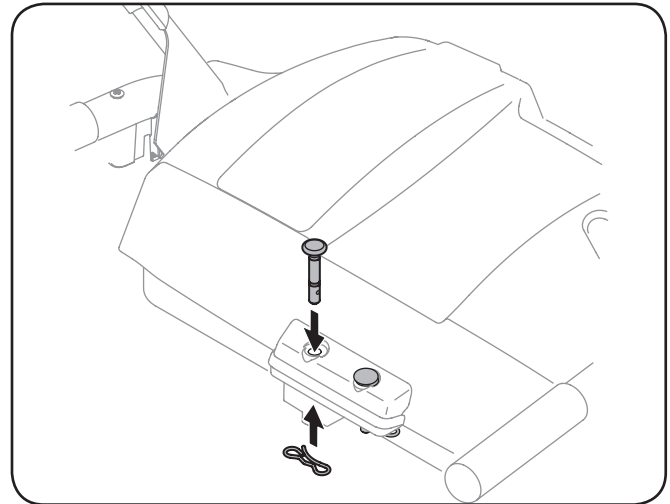

Figure 3-9
Replacement auger shear pins and bow tie cotter pins are included with your snow thrower. Store them in your snow thrower's dash panel until needed. See Figure 3-9.
- Reposition drift cutters so they face forward as shown in Figure 3-9. Secure with hardware previously removed, wingnuts should be fastened on the **outside** of the housing as shown.